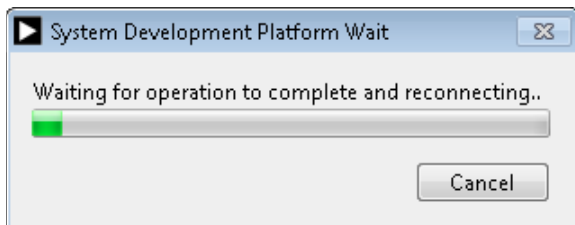

Figure 2. Connection Message
2. Click **Start > All Programs > Analog Devices > AD5686R** to run the software. When the software connects to the evaluation board, the message in Figure 2 displays.